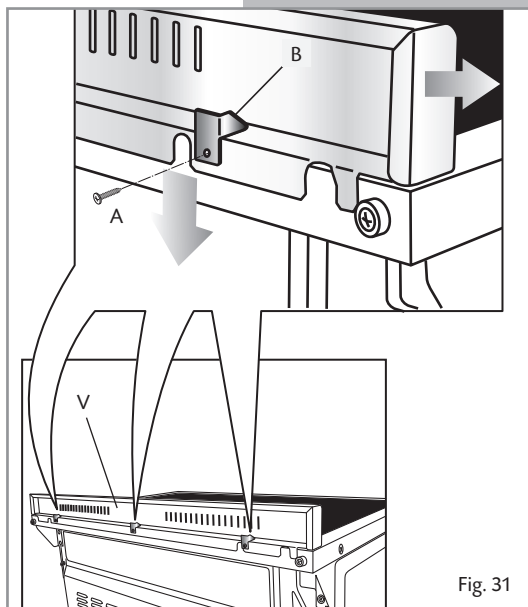

Fig. 31
Before installing the cooker, assemble the backguard "V" (fig. 31).
- The backguard must be fixed to the cooktop using the three supports "B" supplied with the appliance (see fig. 31).